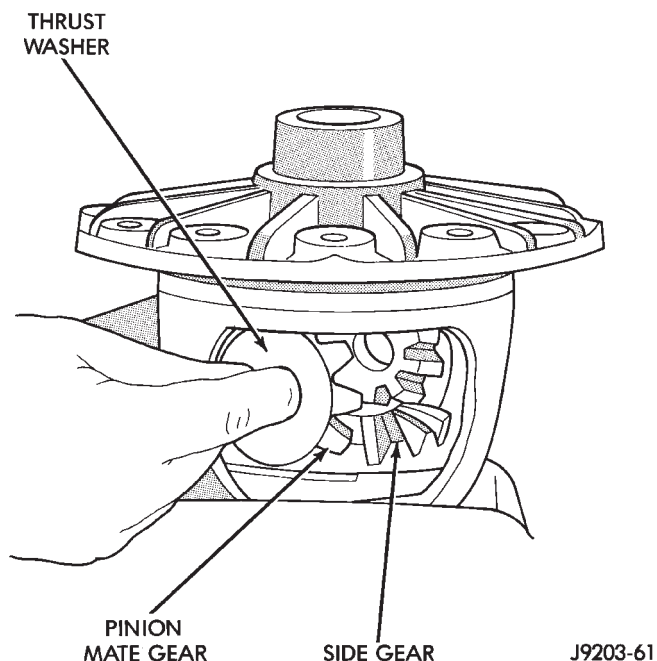

Fig. 37 Pinion Mate Gear Removal
- (3) Rotate the differential side gears and remove the pinion mate gears and thrust washers (Fig. 37).